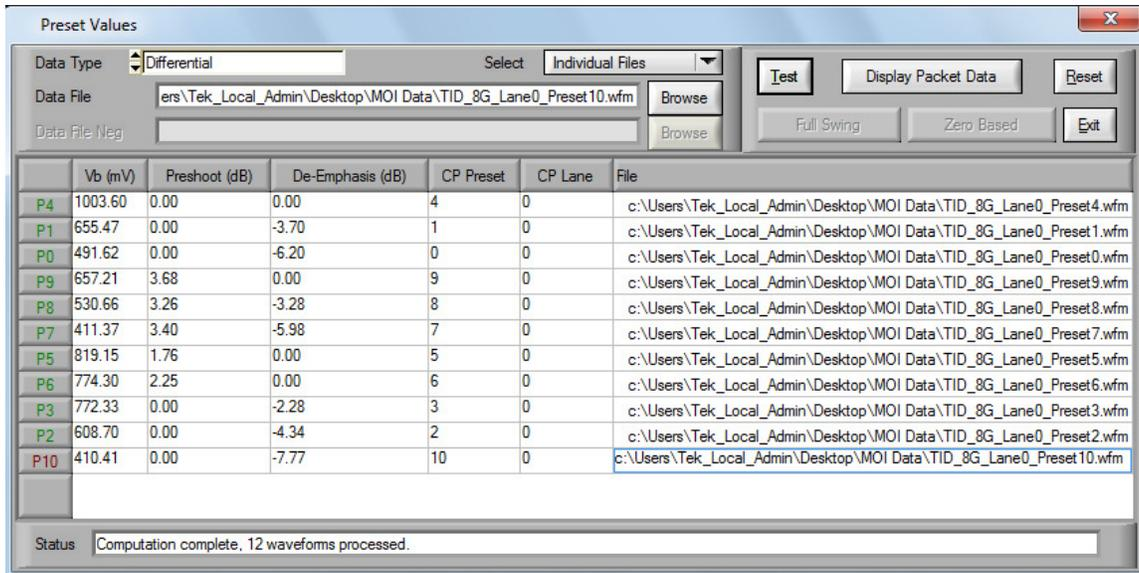

Figure 31. SIGTEST Preset results
6. Connect the power splitter to the “Fast Edge” output of the scope. Refer to Figure 31.
7. Connect two SMA (male)-SMA (Male) adapters to two outputs of the power splitter. Refer to Figure 31.
8. Connect SMA (Female)-SMP (Male) adapter to the two SMA adapters. Refer to Figure 31.